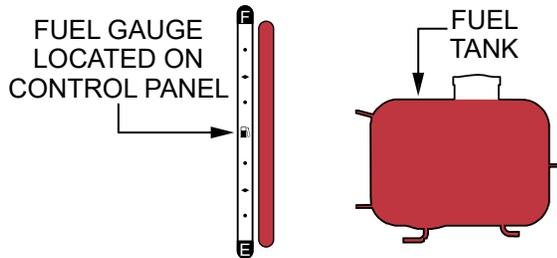

Figure 19. Full Fuel Tank
- NEVER overfill the fuel tank** — It is important to observe the **fuel gauge** (Figure 19) while filling the fuel tank. **DO NOT** wait for fuel to rise in the filler neck.